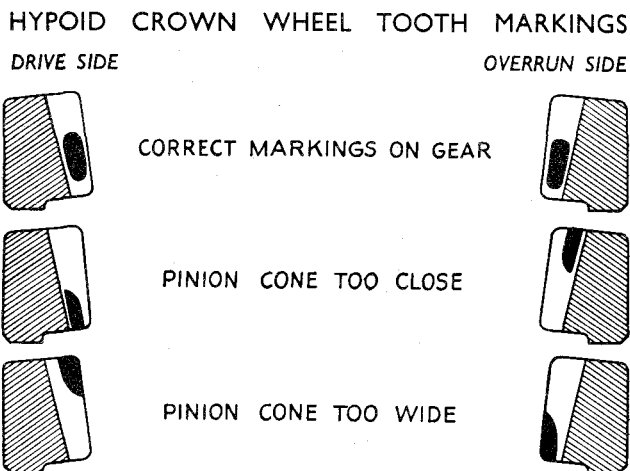

Fig. 33 Crown wheel tooth markings.
- (xxvii) A tooth marking test should now be carried out, and to enable this to be done a few teeth should be painted with a suitable marking compound. The pinion should be rotated backwards and forwards by the driving flange, over the marked teeth on the crown wheel, and the markings compared with the diagram (Fig. 33), and the instructions on this diagram regarded.